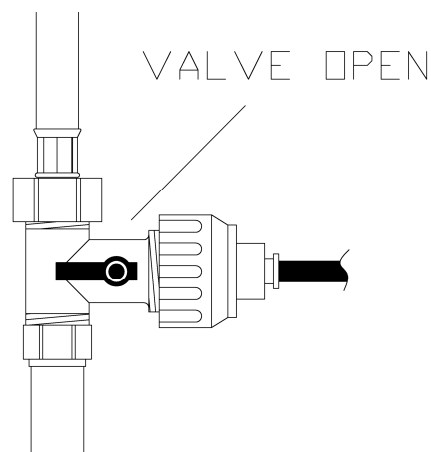

Fig 3.
5. Write the date of installation onto the label of the new filter cartridge (C).
6. Push fittings (B&E) firmly onto the filter spigots (C). Ensure the inlet and outlet fittings (B&E) are connected to the filter as indicated on its label.
8. Turn the lever on the isolator (A) to the open position (fig 3.)